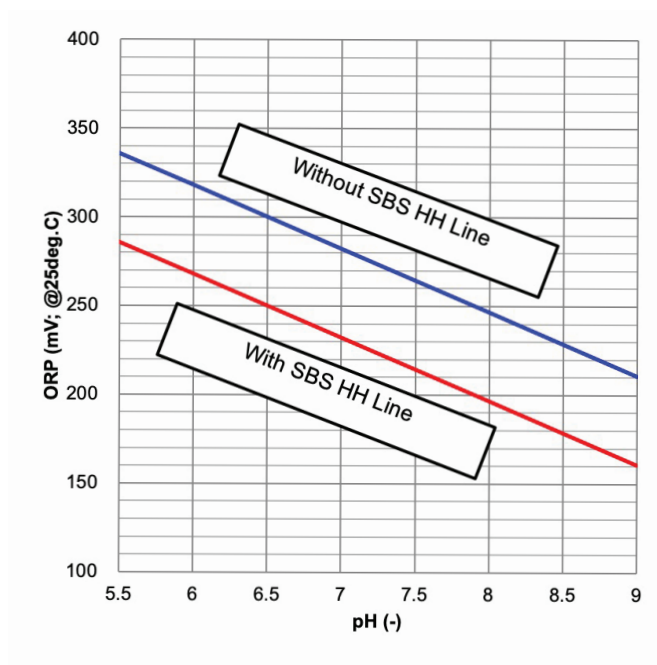

Figure 230-1:
*) The ORP meter reading should always be less than the value of the line shown in Figure 230-1.